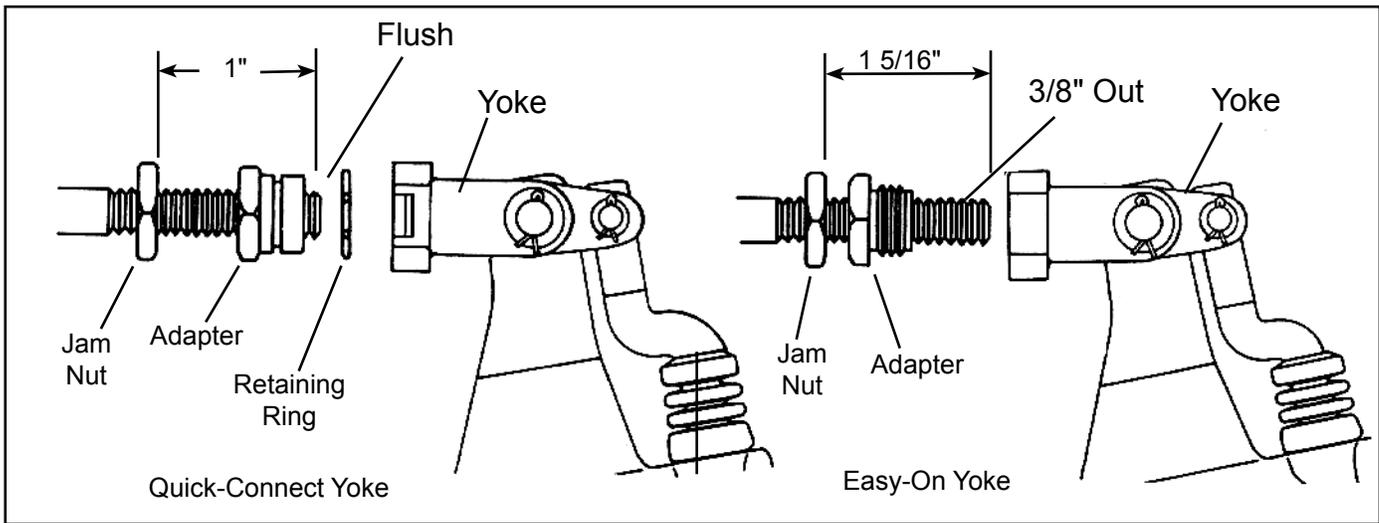

Figure 2 - Yoke Styles
1. If the ASA-5™ slack adjuster is equipped with the easy-on yoke assembly illustrated in Figure 2:
2. If the ASA-5™ slack adjuster is equipped with the quick-connect yoke assembly illustrated in Figure 2:
2. If the ASA-5™ slack adjuster is equipped with the easy-on yoke (Refer to Figure 2), position the brake actuator push rod jam nut approximately 1-5/16 inches from the end. Thread the easy-on yoke adapter on the brake actuator push rod until it is about 3/8 of an inch from the end of the push rod. Turn the ASA-5™ slack adjuster manual
3. If the ASA-5™ is equipped with the quick connect yoke (refer to Figure 2), position the brake actuator push rod jam nut approximately 1 inch from the end. Thread the quick connect adapter bushing on the brake actuator push rod until it is flush with the end of the push rod. Install the retaining ring on the adapter bushing, making certain it is in the adapter bushing groove. Turn the ASA-5™ manual adjustment hex clockwise until the adapter bushing begins to enter the yoke. Fully compress the "legs" of the retaining ring and continue turning the ASA-5™ manual adjustment hex until the adapter is completely in the yoke. Allow the retaining ring to expand into the corresponding groove in the yoke. Make certain the retaining ring is seated in both the yoke and adapter bushing groove by manually pulling on the ASA-5™ arm, attempting to separate the adapter bushing and yoke.